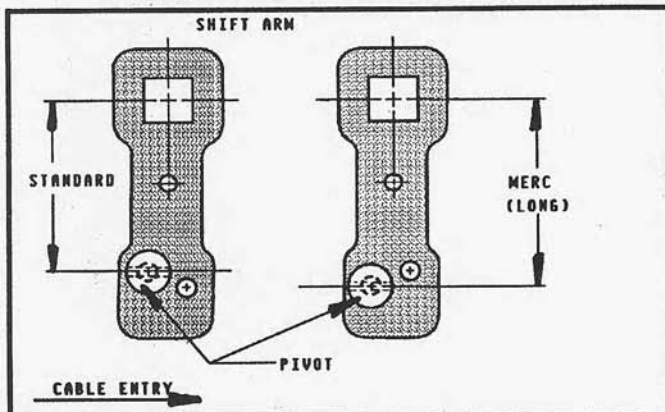

FIGURE 9
To obtain standard (2-3/4 inch) cable shift travel at engine use shift arm on control at short pivot hole location as shown in Figure 9.
NOTE: THE CONTROL SHIFT LEVER AND THE TRANSMISSION SHIFT LEVER MUST COINCIDE AT THE FORWARD, NEUTRAL AND REVERSE POSITIONS. DIFFERENT MAKES OF TRANSMISSIONS MAY REQUIRE DIFFERENT AMOUNTS OF SHIFT TRAVEL. FOR THIS REASON, THE CONTROL SHIFT LEVER IS PROVIDED WITH TWO (2) POSITIONS FOR ATTACHING THE SHIFT CABLE, ONE FOR STANDARD TRAVEL AND ONE FOR THE LONGEST TRAVEL. SEE FIGURE 9.